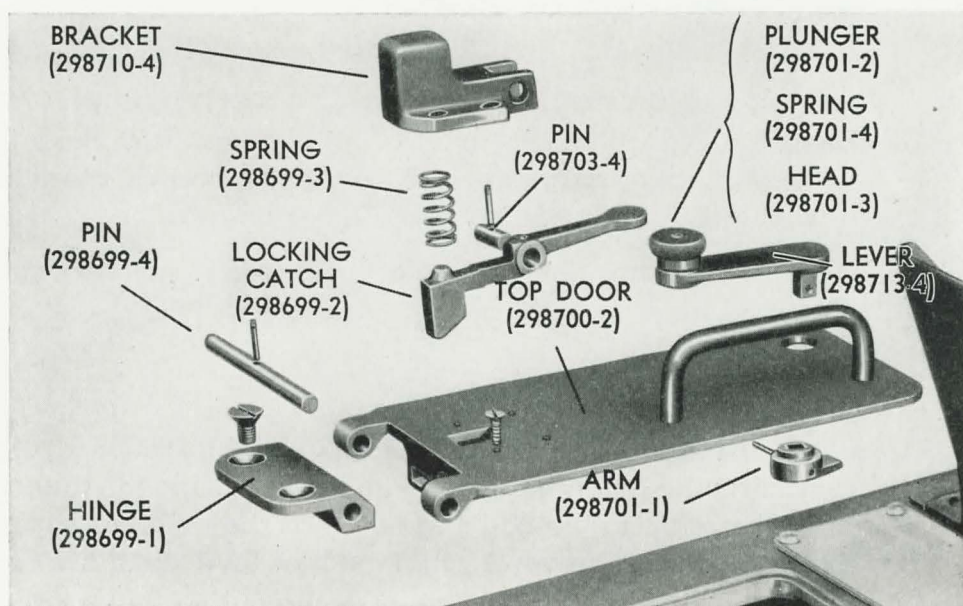

Figure 79
- (1) Remove the retaining pin, the hinge pin and the hinge from the top door.
2. Assembly and Installation of the Top Door, Figure 79